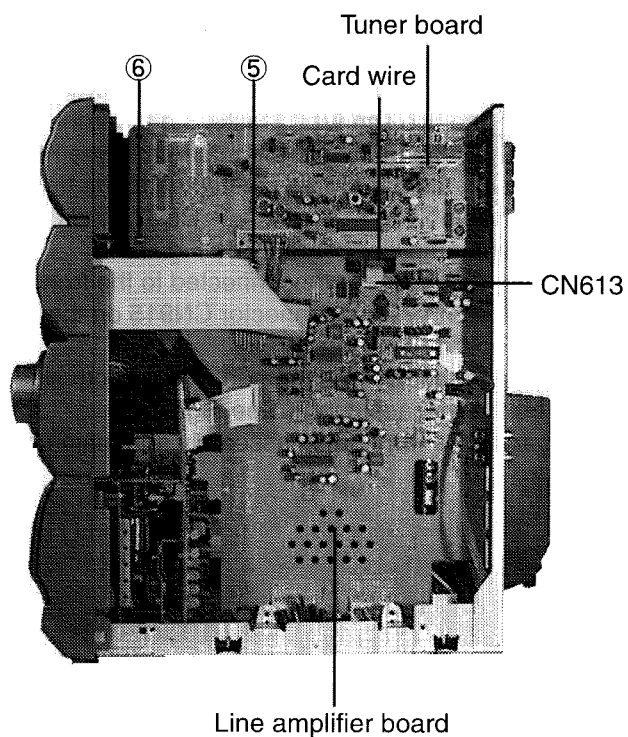

Fig.4
4. Remove the one screw ⑤ fastening the tuner board and additional board (See Fig.4)
5. Remove the one screw ⑥ fastening the Line amplifier board.(See Fig.4)
6. Disconnect the card wires connected to the CD traverse mechanism assembly from connectors CN613 on the line amplifier board .(See Fig. 4)